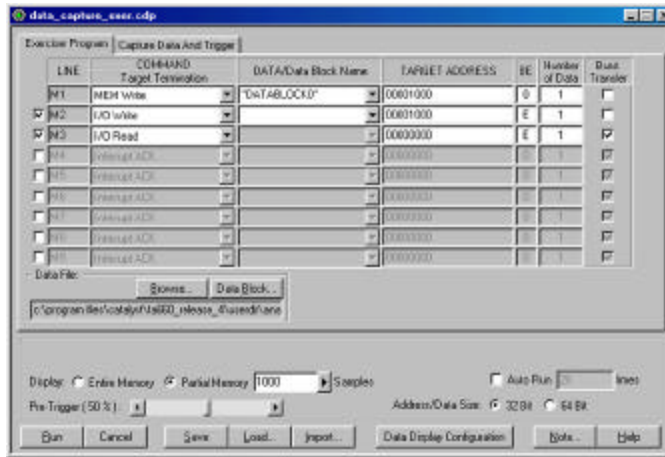

Figure 21 Exerciser Program Definition Dialog Box
1. Click on the **Exerciser Program** tab to open the Exerciser Program definition dialog box as shown in Figure 21.